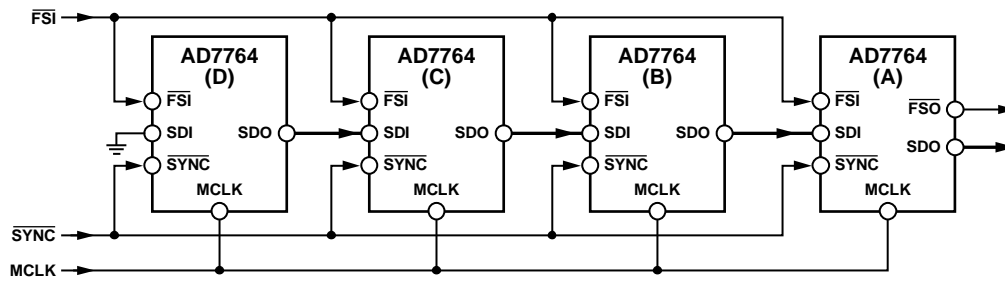

Figure 45. Daisy Chaining Four Devices in Decimate 128x Mode Using a 40 MHz MCLK Signal
The block diagram in Figure 45 shows how to connect devices to achieve daisy-chain functionality. Figure 45 shows four AD7764 devices daisy-chained together with a common MCLK signal applied. This can work in decimate 128x or decimate 256x mode only.
Referring to Figure 45, note that the SDO line of AD7764 (A) provides the output data from the chain of AD7764 converters. Also, note that for the last device in the chain, AD7764 (D), the SDI pin is connected to ground. All of the devices in the chain must use common MCLK and SYNC signals.